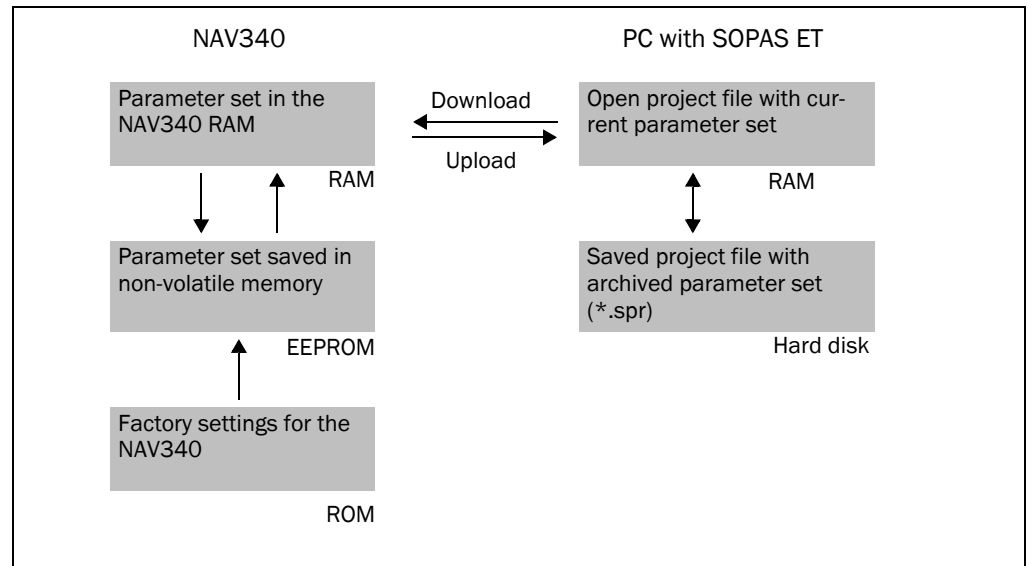

Fig. 27: Principle of data storage
4. Open project file (spr file with configuration data) using SOPAS ET and transfer configuration to the device (see fig. 27 on page 47).